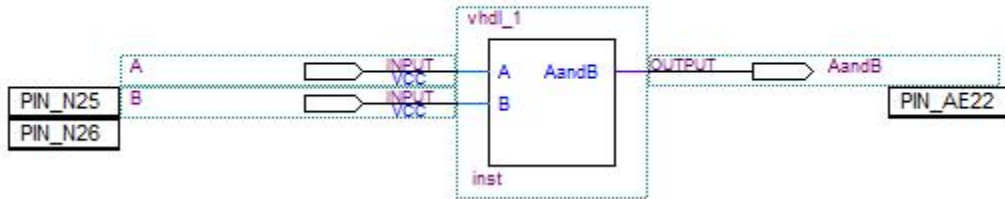

Figure 7-10
- To save the pin assignments as part of the project, choose **File > Save Project**. You can also simply close the Pin Planner window. If you go back to the lab7_1.bdf file, the circuit diagram will now have the pin assignments listed next to each input and output pin as shown in Figure 7-10.